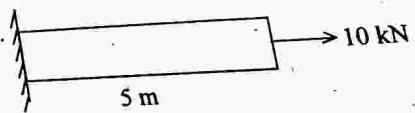

Fig. 12(B)
- (B) Find out the end displacement of the bar shown in Fig. 12(B) using Rayleigh Ritz method. Assume polynomial function for displacement as $u(x) = a_1 + a_2x$. Take $A = 100 \text{ mm}^2$, $E = 2 \times 10^5 \text{ N/mm}^2$.